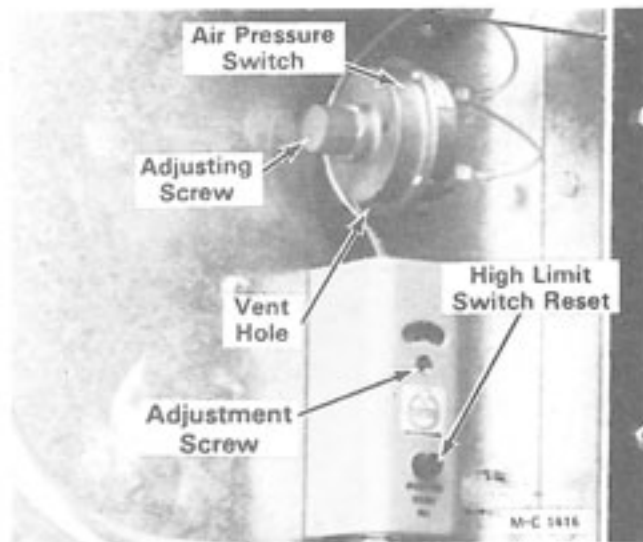

Figure 15
6. Flip the control circuit toggle switch ON. The control circuit ON light and high limit light will be on. If the high limit light is not on, push the reset button on the high limit switch, see Figure 15.
1. There is an air pressure switch for the heat chamber, see Figure 15. The air pressure switch senses the static air pressure in the heat chamber when the dryer is full of grain and the fan is running. If the static air pressure drops because of fan failure, the air pressure switch opens stopping current flow to the ignition switch. The gas solenoid valves will close and the burner will shut down.
**NOTE:** If the light does not come on, remove the air pressure switch and check to be sure the  $\frac{1}{8}$ " vent hole in the bottom of the air pressure switch is open, see Figure 15. Also check for an obstruction in the air pressure tube and filter, see Figure 15.
1. Remove the plastic cap on the air pressure switch. The slotted screw is the adjusting screw, see Figure 15.
8. If the high limit switch trips out, close the gas main hand valve and flip the ignition switch OFF. Push the reset button on the high limit switch to reset it, see Figure 15. Adjust high limit  $30^{\circ}$  to  $50^{\circ}$  above operating temperature. This will avoid nuisance shutdowns during start up.